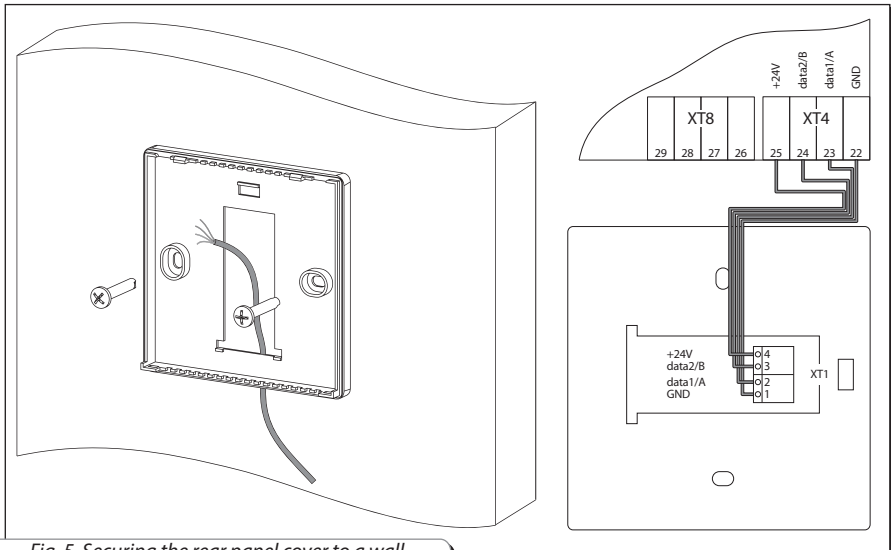

Fig. 5. Securing the rear panel cover to a wall
- Secure the rear panel cover to the wall (Fig. 5).
- Connect the cable to the terminal block. The connection diagram is given on Fig. 5.